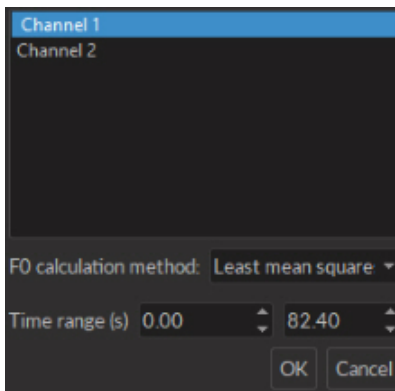

Figure 4.21: $\Delta F/F_0$ Options
- The $\Delta F/F_0$ function opens the **Select Which Traces to Process** window (Fig. 4.21). It is used to calculate the normalized fluorescence variation of the data and displays the results in a new graph. See section 4.2.2 for more details.